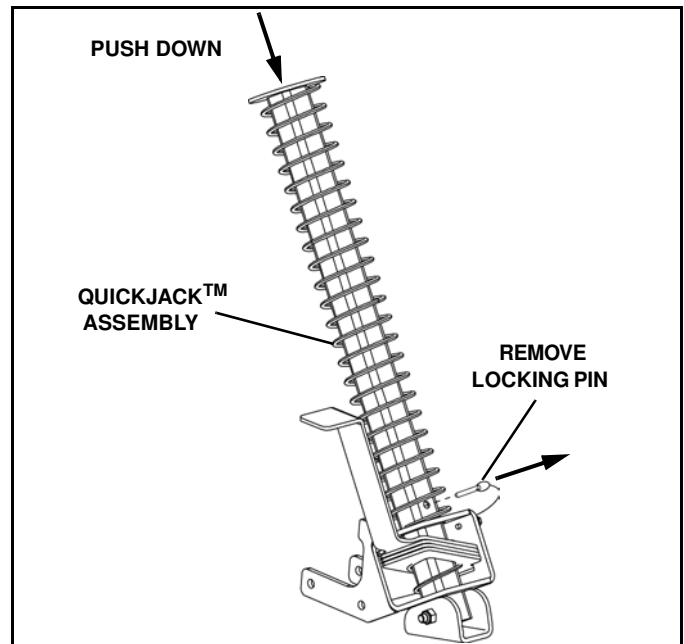

Figure 1-36
2. Remove the QuickJack™ locking pin. Push the center tube down to fully lower the jackstand. (See Figure 1-36).